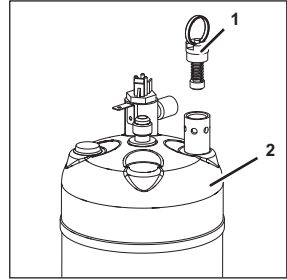

Figure 108
2. Turn the drain valve (Figure 108/1) and remove from the carbonator tank (Figure 108/2).
3. Attach the new drain valve (Figure 108/1) to the carbonator tank (Figure 108/2) by turning it.